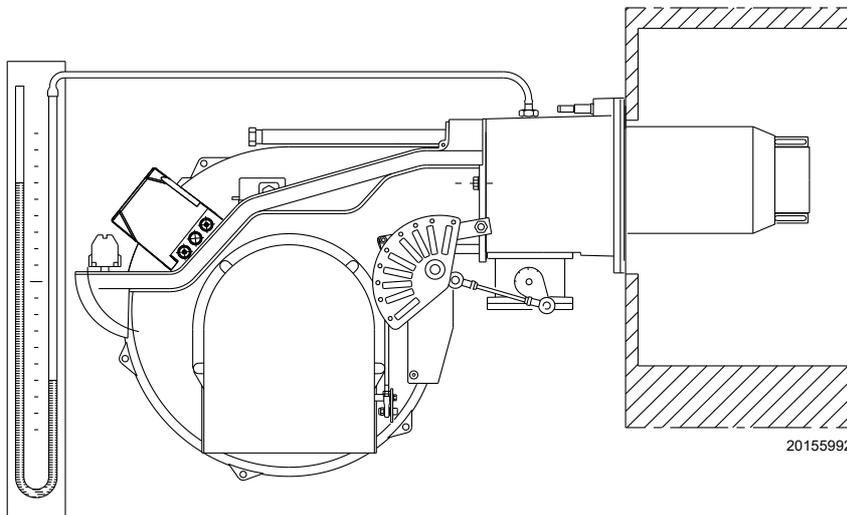

Fig. 27
- Bleed the air from the piping of the gas train, connecting a plastic tube to the pressure test point 1)(Fig. 27) of the minimum gas pressure switch.
- Fit a U-type pressure gauge (Fig. 27) to the gas pressure test point on the pipe coupling.
The arrival of gas to the sleeve is indicated by the U-type pressure gauge (Fig. 27 on page 26).
A rough indication can be obtained from Tab. K on page 22, just read the gas pressure on the “U” pressure gauge (see Fig. 27 on page 26) and follow the indications.